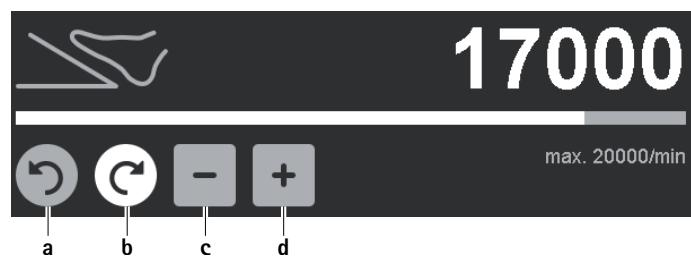

Fig. 6 Changing the maximum speed setting/rotational direction
- ▶ Change the rotational direction: Activate the inactive, gray rotational direction button for clockwise/counter clockwise **a/b**, see Fig. 6. The rotational direction is changed from clockwise to counter clockwise and vice versa.